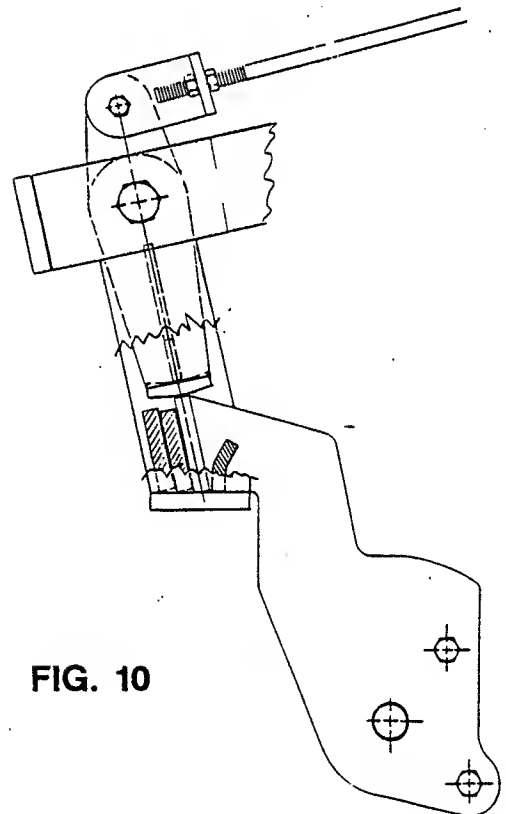

FIG. 10
- Latch bar must be centered on the cross bar of the front mount. Adjust as required by loosening 1/2-13 hex nuts and adjust to center and make sure nuts are tightened securely after adjusting. See Fig. 10.